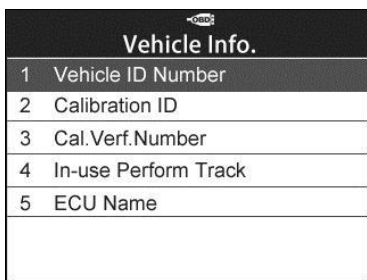

Figure 6.27
- 2) Wait for the scan tool to display the **Vehicle Info.** menu (Figure 6.27).